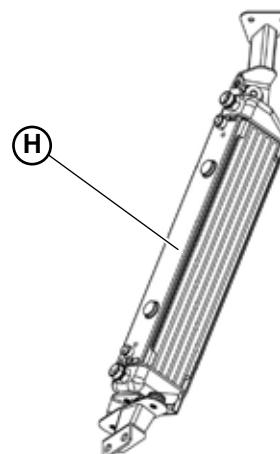

Fig.3
5. Remove the gearbox oil radiator (H-Fig.3).